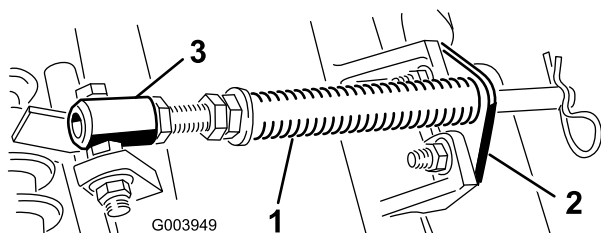

**Figure 4**
4. Make sure the counter weight (Figure 4) is installed to the proper end of the cutting unit as described in the cutting unit *Operator's Manual*.